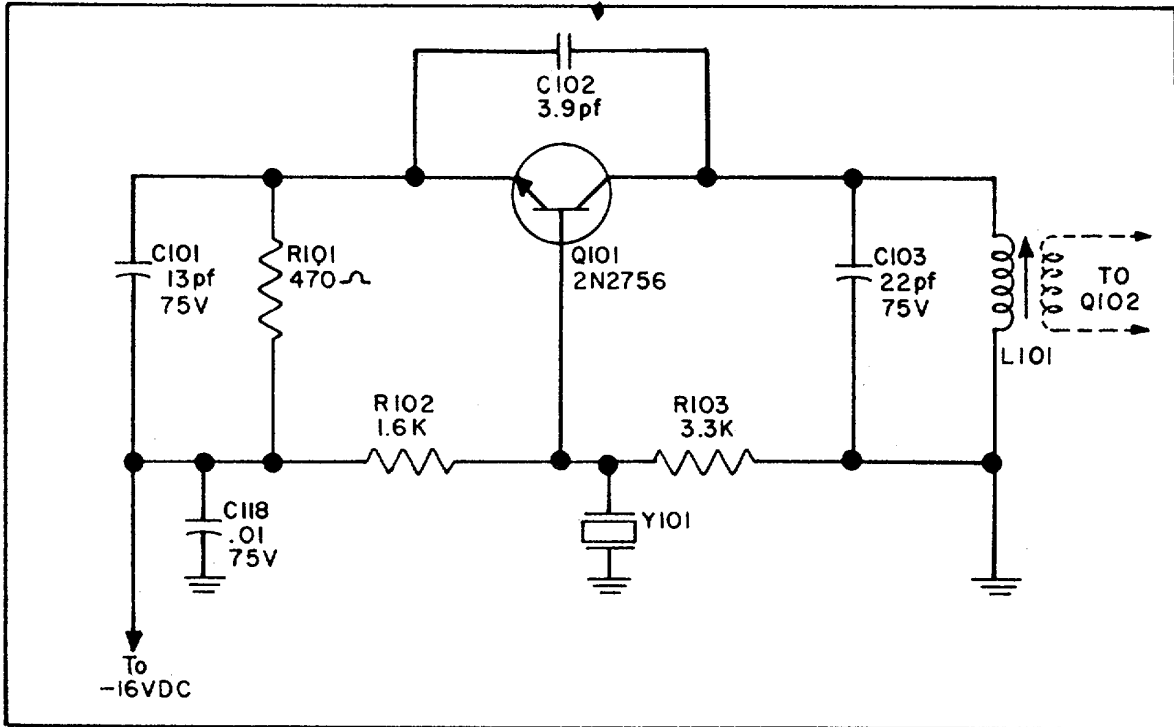
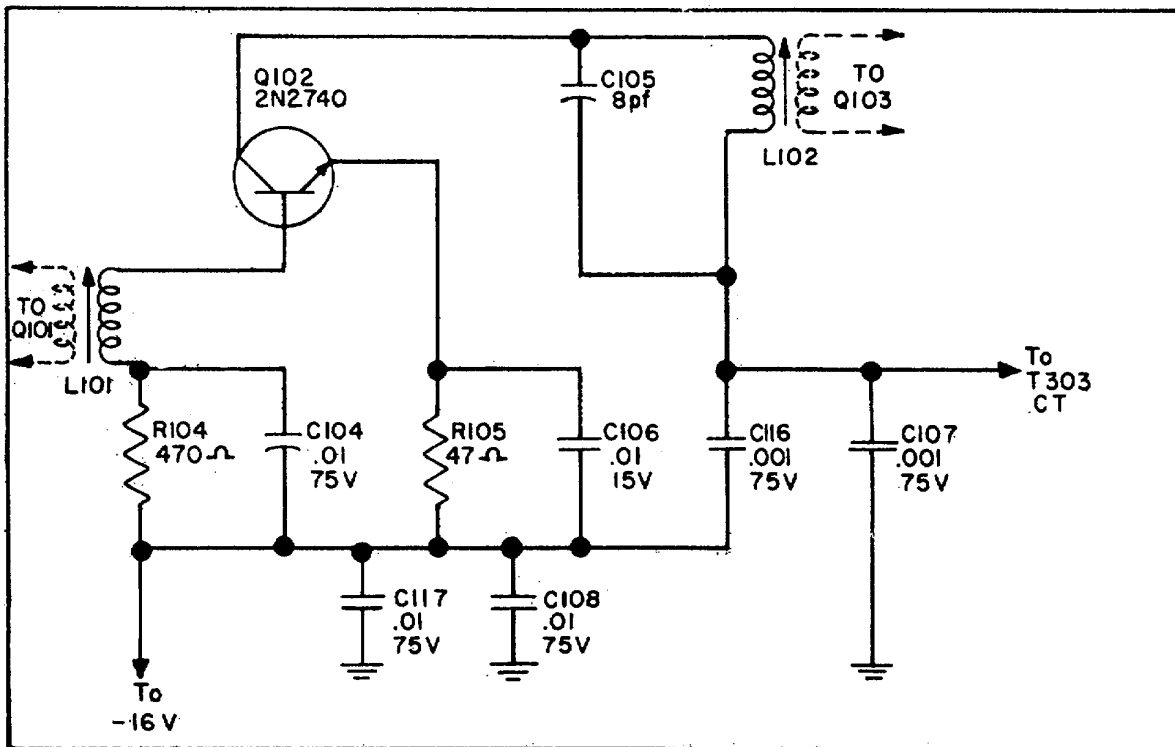
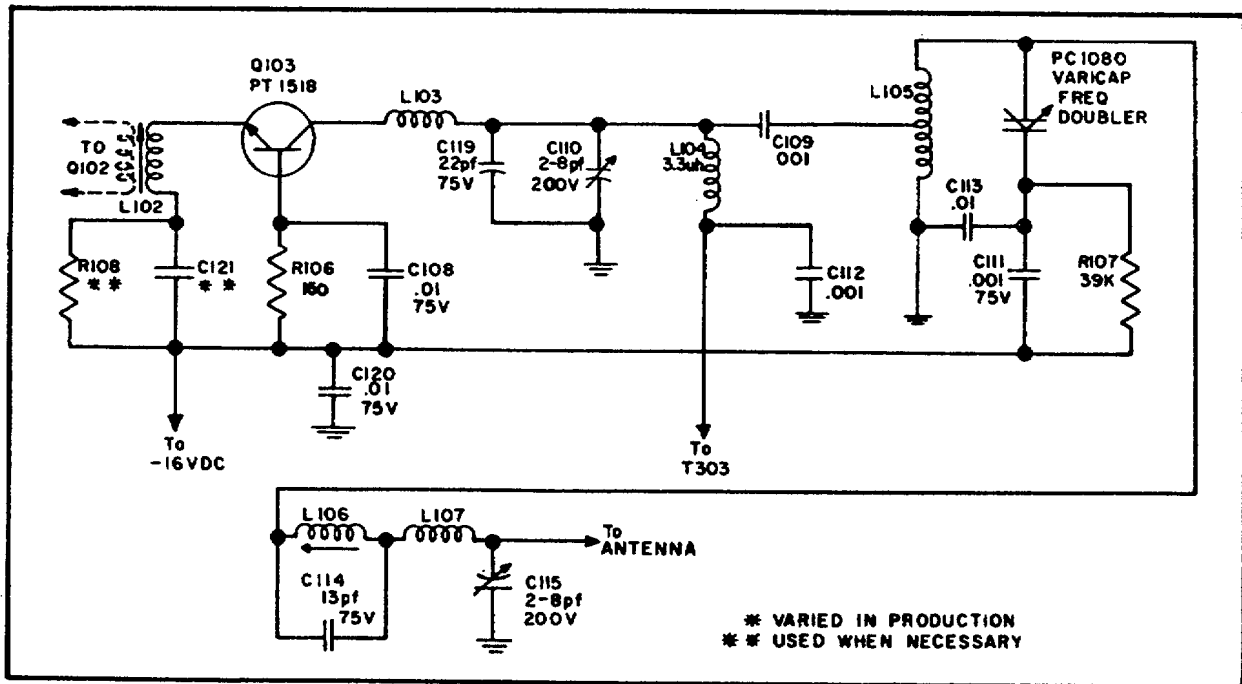

Figure 4-1. RF Transmitter Amplifier, Simplified Schematic
Figure 4-2. RF Transmitter Doubler, Simplified Schematic
Figure 4-3. Final RF Transmitter Amplifier and Doubler, Simplified Schematic
**4-4.** When in voice transmission mode, the transmit-receiver (t/r) relay switches the speaker/microphone to use the microphone function. The antenna operates in the transmitter output band and the signal from the microphone is applied to the audio amplifier. The analysis of the audio stage is given in paragraph 4-8. The output of the audio amplifier is transformer-coupled to a 120-MC doubler and the final RF amplifier. The transmitter consists of a crystal oscillator (figure 4-1) which generates a 60-MC signal. This signal is RF transformer coupled to the buffer doubler (figure 4-2) which applies, a 120-MC signal to the final amplifier through an RF transformer (L102). The final amplifier (figure 4-3) also operates at 120 MC and provides the RF power drive. Thus, output is again doubled in frequency by a solid state varicap doubler (Type PC-1080). The RF out- put is applied to the antenna through the antenna matching network.